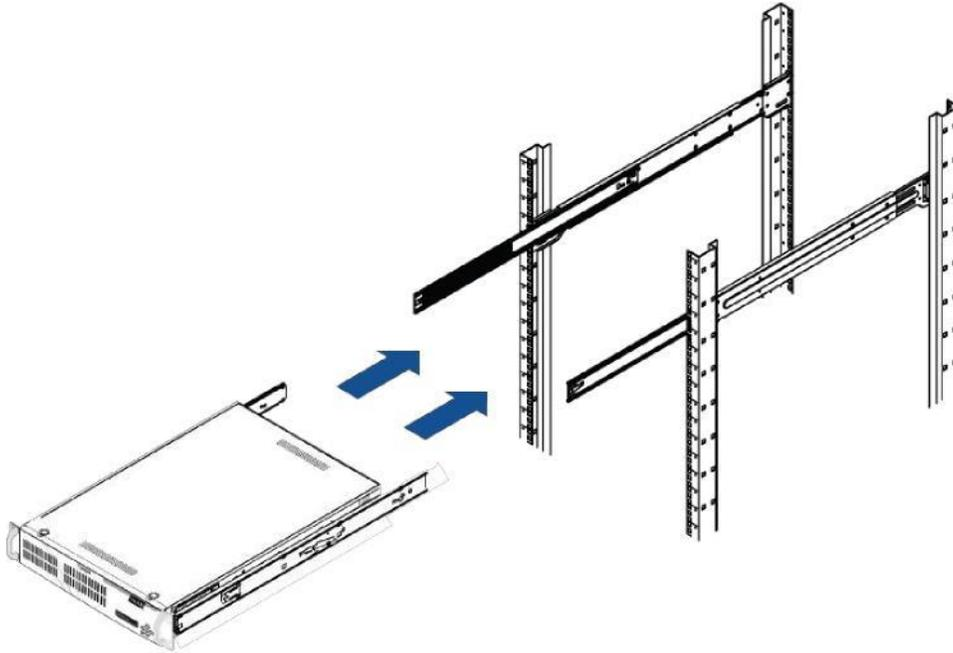

Figure 13: Slide Appliance Chassis into Rack Using Installed Rails
1. Extend the outer rails as illustrated in Figure 13.